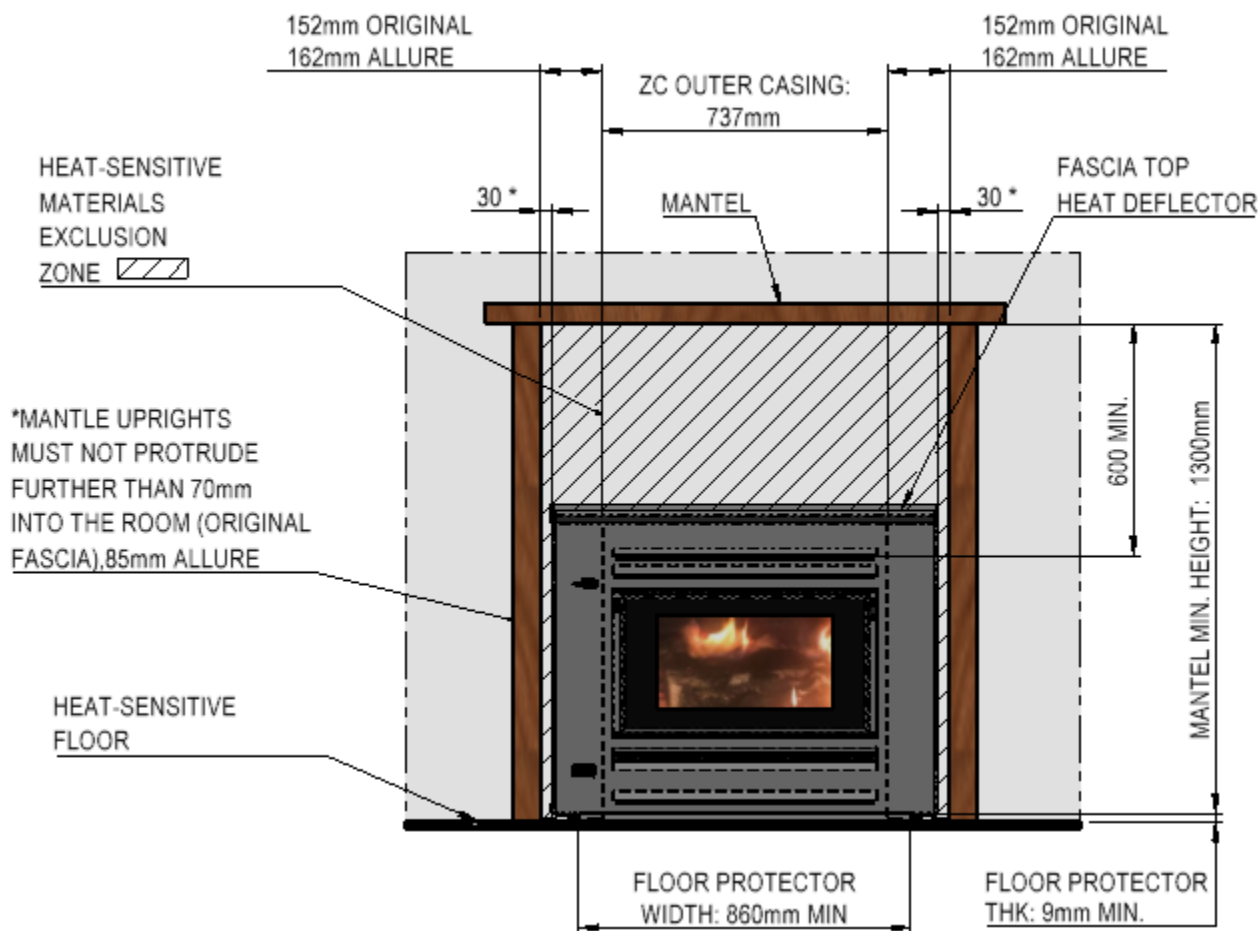

Fig 5
- E1.** Non-combustible front cladding **must be used** to a minimum of 600mm above the top-most panel vent, and a minimum of 30mm either side of the fascia (152mm either side of the outer casing of the firebox (Zero Clearance Kit) for the Original panel set or 162mm for the Allure fascia). (Fig. 5)